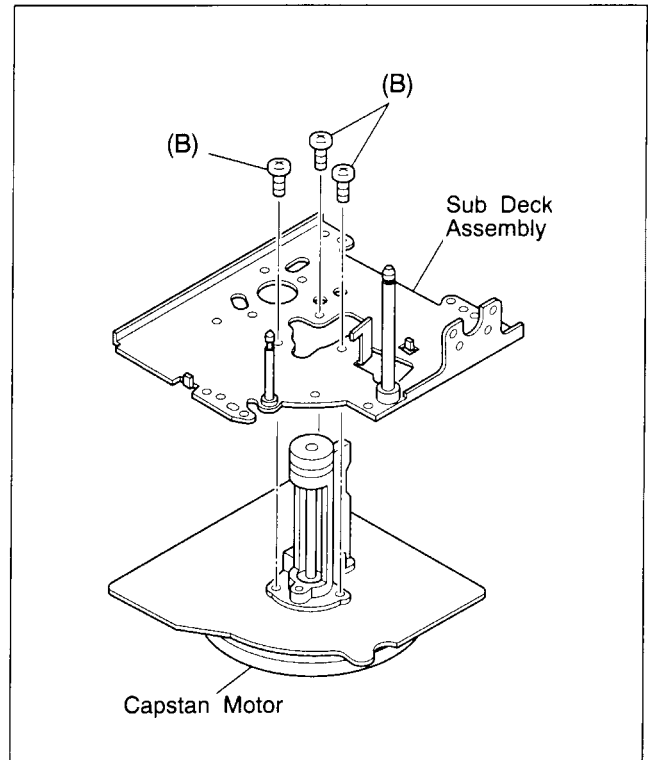

Fig.2-5-9
- (4) Take out 3 screws (B) and remove the capstan motor from the sub deck assembly as indicated in Fig.2-5-9.